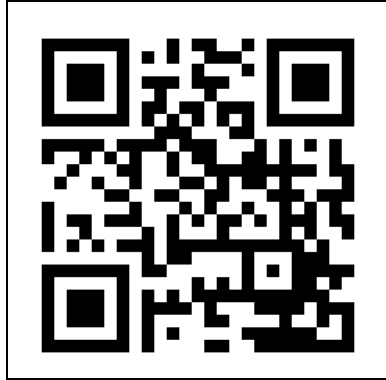

Figure 16
1. Open the Eurom Smart App manual with the QR code (Figure 16) or go to [www.eurom.nl/nl/manuals](http://www.eurom.nl/nl/manuals).